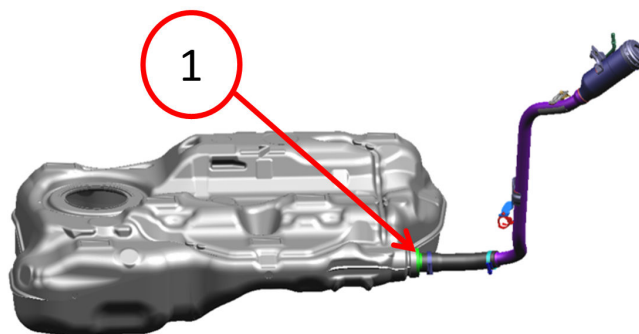

Fig. 1
2. Insert a borescope probe through the filler neck and attempt to open the inflow control valve Fig. 1 using the end of the borescope.